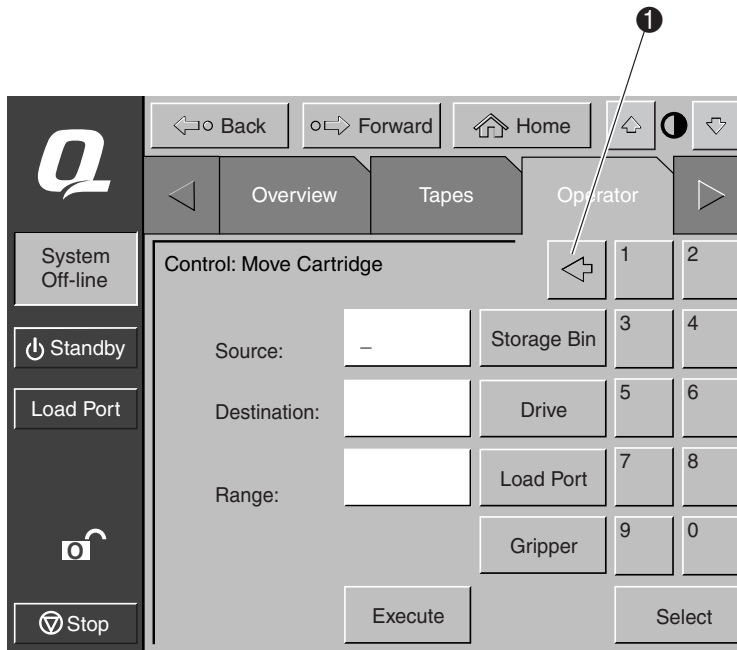

Figure 4-7. Control: Move Cartridge screen
1. On the Operator screen, press the **Move Cartridge** button. The control panel displays the Control: Move Cartridge screen, with the Source input field active (see Figure 4-7).
NOTE: Use the **Backspace** button to erase a partial entry character-by-character (1 Figure 4-7).